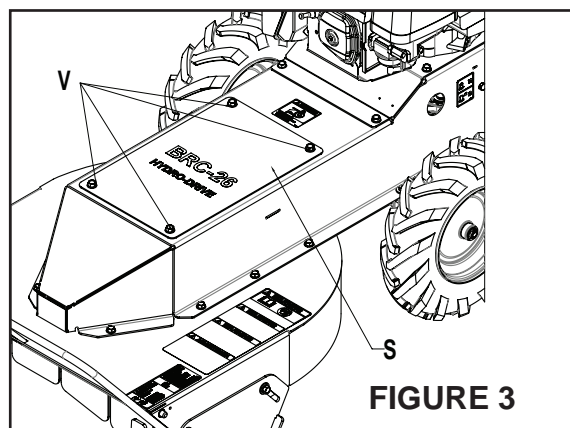
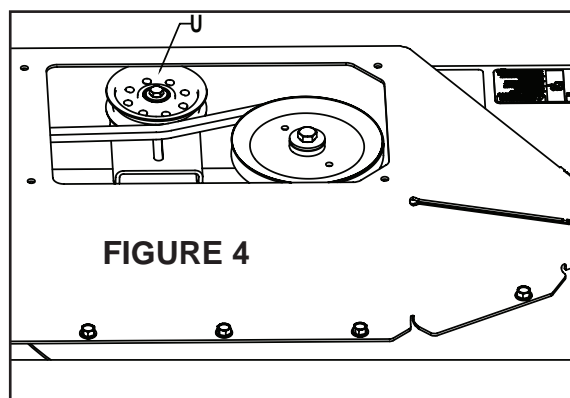

FIGURE 3
FIGURE 4
The effective length of the blade control rod may be adjusted by turning the rod **J** in or out of the swivel where it connects to the blade bellcrank **L**. Adjust the rod so there is about a 1/8" (3 mm) space between the bellcrank and the rear cover when the blade control lever is engaged (held to the handle). (Figure 3)
1. Push and pull on the machine. The wheels should skid. If the wheels turn, disconnect the brake rod **K** at the brake lever and turn out of the swivel **M** below the engine deck 1 or 2 turns. Reconnect the brake rod and check the adjustment by pulling and pushing the machine again. Continue adjusting until the machine skids with the brake 'ON'. Be sure there is free 'play' in the 'OFF' position so the brake doesn't drag during operation. If a satisfactory adjustment has been made skip to step 4. (Figure 3)
3. Remove the cotter pin from the brake adjusting castle nut **N**. (Figure 4) Tighten the nut 1/6 of a turn at a time. Check the adjustment each time until the wheels lock up with the brake 'ON' and the linkage has free 'play' in the 'OFF' position. When a satisfactory adjustment has been found, reinstall the cotter pin to maintain the position of the castle nut.
**STORAGE****FIGURE 3****FIGURE 4****FIGURE 5**
2. Remove the four bolts **V** holding the blade belt cover **S** on. (Figure 3)
3. Loosen the bolt **U** securing the blade belt idler and slide the idler toward the side of the tunnel to loosen the belt. (Figure 4)